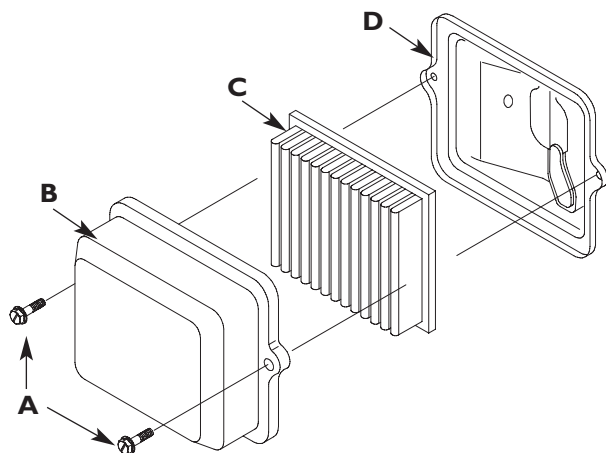

Figure 12 — Service Air Cleaner
1. Loosen screws **(A)** and remove air cleaner cover **(B)** (Figure 12).